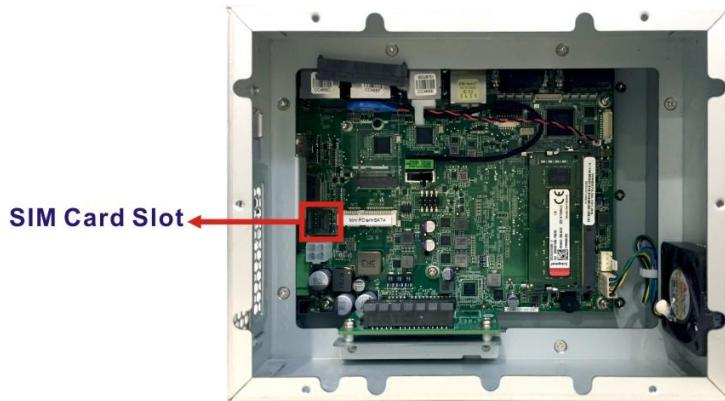

Figure 3-7: Unlock SIM Card Slot Cover
Step 1: Locate the SIM card slot (**Figure 3-7**).